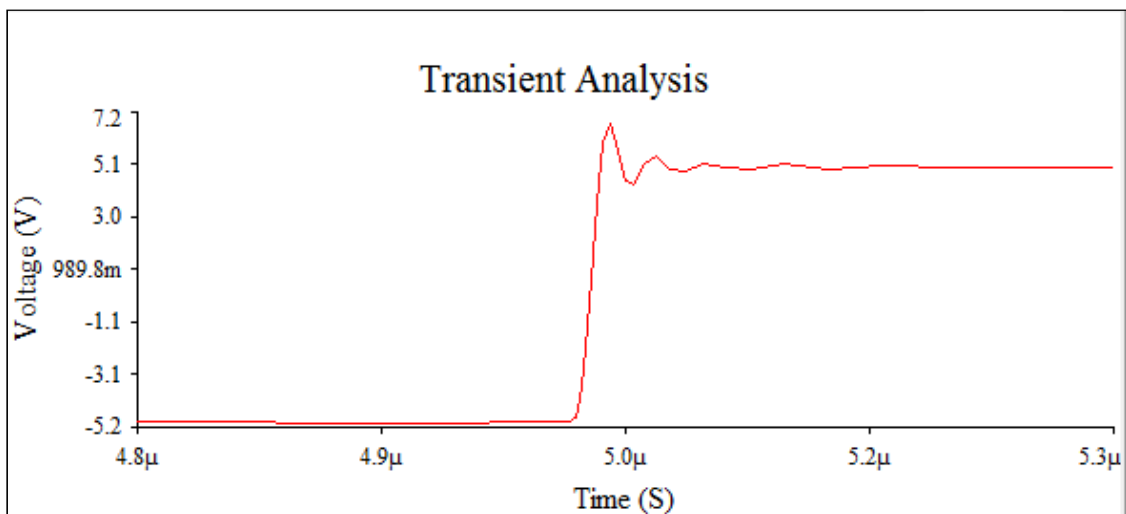

Fig: 18 Step response of Butterworth LP filter (n = 6)
The following definitions are given with reference to fig. 18.
6. The transient response is shown in fig. 18.